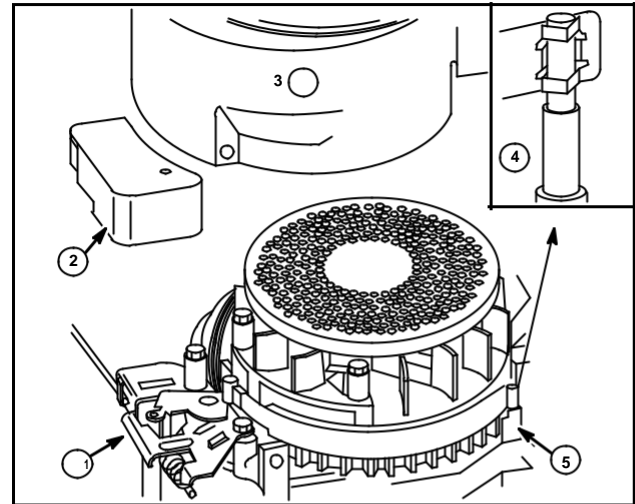
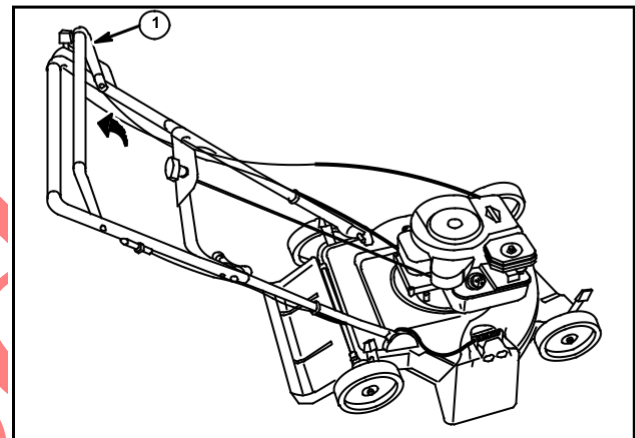

Fig. 116
Fig. 117
System 3 and 4 engines are equipped with the band brake feature, Fig. 116. The band brake **MUST STOP** the engine (cutter blade) within **three seconds after operator releases equipment** safety control, Fig. 117.
- b. Anchor post (5) or alternate type – inset (4) misaligned or bent.
- d. Control bracket lever (1) rivet worn or loose. (Check ignition system as noted in Section 2.)
- e. Control bracket (1) misadjusted.
- f. Equipment controls (1) damaged, Fig. 117.
2. Loosen cable clamp screw and remove cable from control lever, Fig. 116.
1. Remove blower housing and rotating screen, Fig. 116.